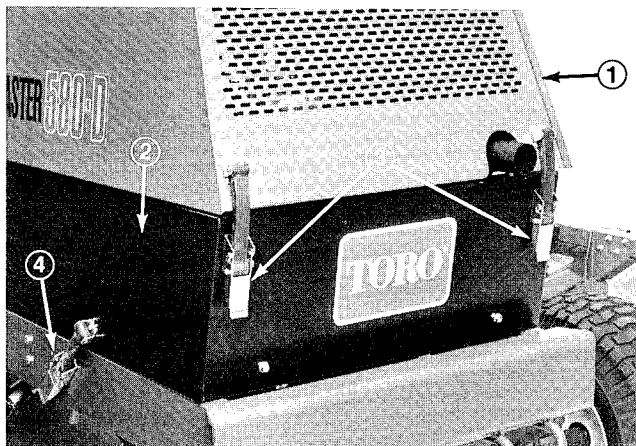

Figure 32
1. Unlatch and raise hood and prop it open. Unlatch and remove left side panel (Fig. 32). Make sure hood prop is secured in one of the mounting brackets on hood.
1. Unlatch and raise hood and prop it open (Fig. 32). Make sure hood prop is secured in one of the mounting brackets on hood. Unlatch and remove both side panels (Fig. 32).
2. Place drain pan in line with the drain plug (Fig. 32). Clean area around drain plug.